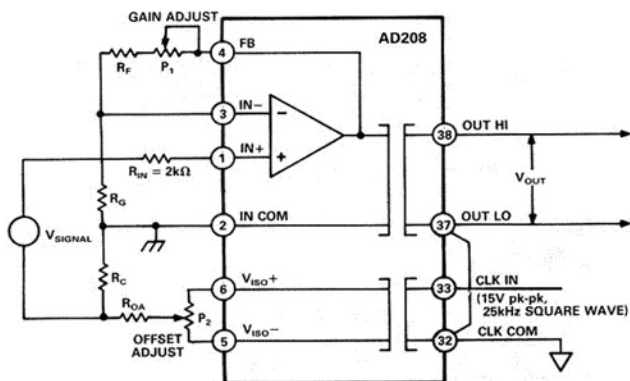

Figure 34. Input Adjustment Circuit for the Noninverting Mode of Operation
Offset Adjustment. Figure 34 shows the suggested input adjustment connections when the isolator's input amplifier is configured for the noninverting mode of operation. The offset adjustment circuit injects a small voltage in series with the low side of the signal source. The adjustment potentiometer P_2 is responsible for nulling out the offset voltage. A $100\text{ k}\Omega$ P_2 , $50\text{ k}\Omega$ R_{OA} and a $100\ \Omega$ R_C should provide an offset adjustment range (Referred to Input) of about $\pm 15\text{ mV}$. Since the offset is zeroed out ahead of the gain, the values given above for P_2 , R_{OA} and R_C should work for any gain on the isolator.
- To minimize CMR degradation it is recommended that the resistor R_C (shown in Figure 34) be below a few hundred ohms.
- The offset adjustment circuit of Figure 34 will not work if the signal source has another current path to input common, or if current flows in the signal source LO lead. If this is the case, use the output adjustment procedure.
Gain Adjustment. Figure 34 also shows the suggested gain adjustment circuit. Note that the gain adjustment potentiometer P_1 is incorporated into the gain-setting resistor network at the isolator's input.